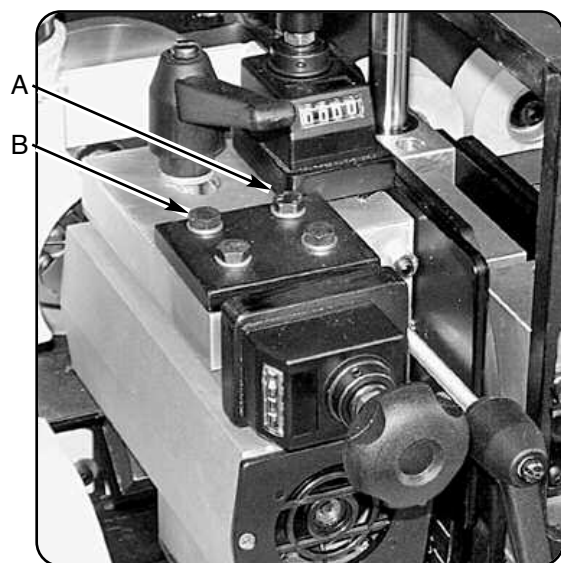
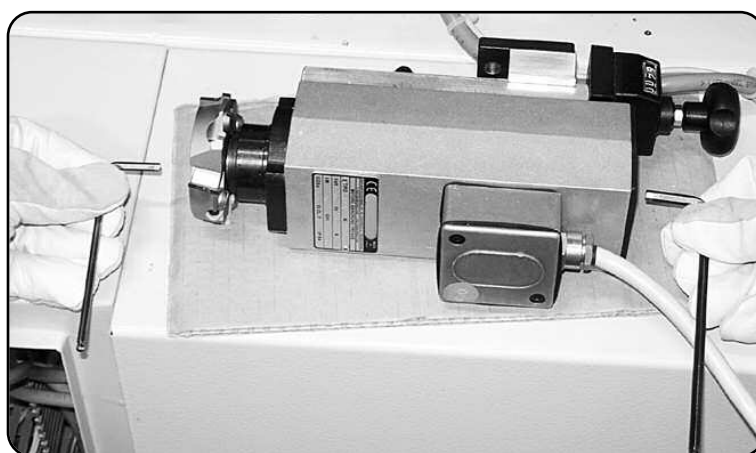

fig. 3.7.6
fig. 3.7.7
- unscrew the due screws A and B fig. 3.7.6 for the top trimmer and the relative ones for the bottom trimmer which are not visible in the picture.
- to substitute the whole cutter loosen the fixing screw as indicated in fig. 3.7.7 with the Alan key supplied with standard equipment
- Mount back the motor fig. 3.7.7 keeping the motor pushed forward , then tight the screws A - B fig. 3.7.6